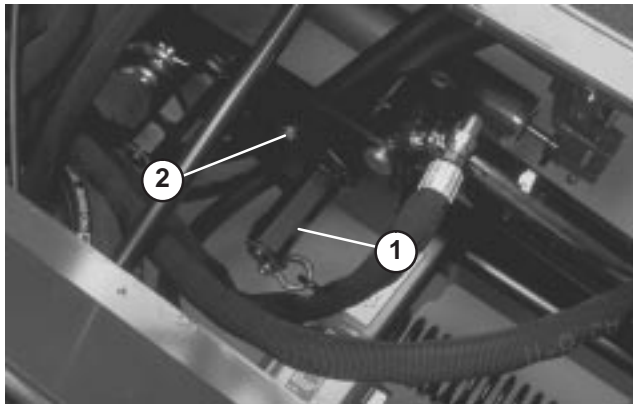

Figure 33
3. Place an open end wrench on the hex shaft of the spring bracket (Fig. 33).
4. Remove the capscrew and locknut securing retaining bracket (Fig. 33), while rotating hex shaft to relieve spring tension.